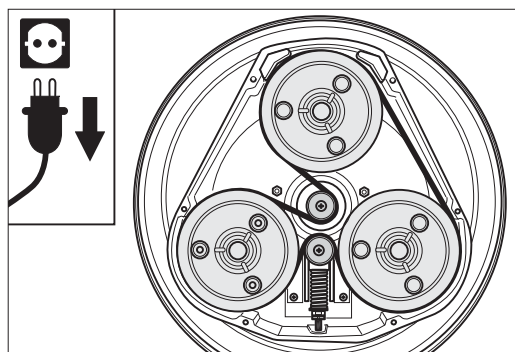

Fig. 41 When the tooth belt tensioner is at the bottom, place the belt loop around the pinion from the left.
**It is important to insert the tooth belt correctly, as otherwise the machine may suffer damage!** When the tooth belt tensioner is at the **bottom**, the belt loop has to be placed around the drive pinion from the **left** (Fig. 41).